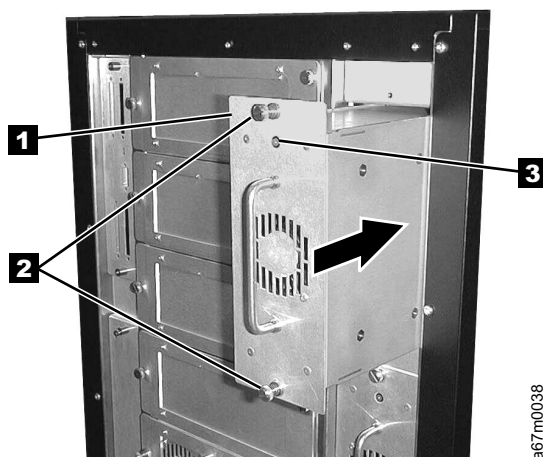

Figure 25. Proper orientation of the dc power supply
**Note:** Before inserting the dc power supply, be sure to orient the power supply so that the light-emitting diode (LED) **3** is located as shown in Figure 25.